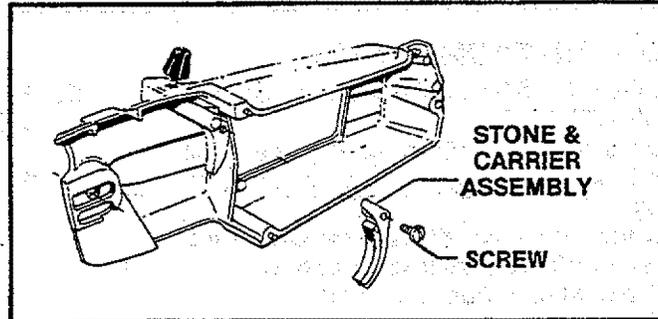

Figure 23
2. Remove screw holding Stone and Carrier Assembly. Figure 23.